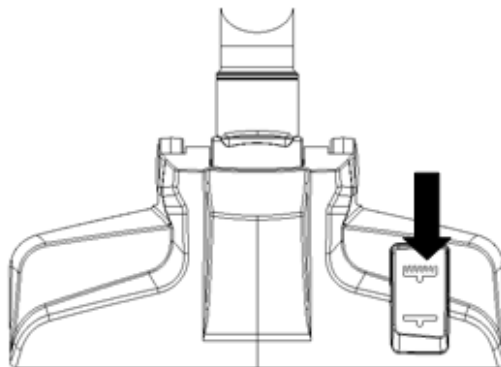

Fig.13
3. As in fig.13, tread on the pedal of the brush tool to let the bristles out, and you can clean the floor.